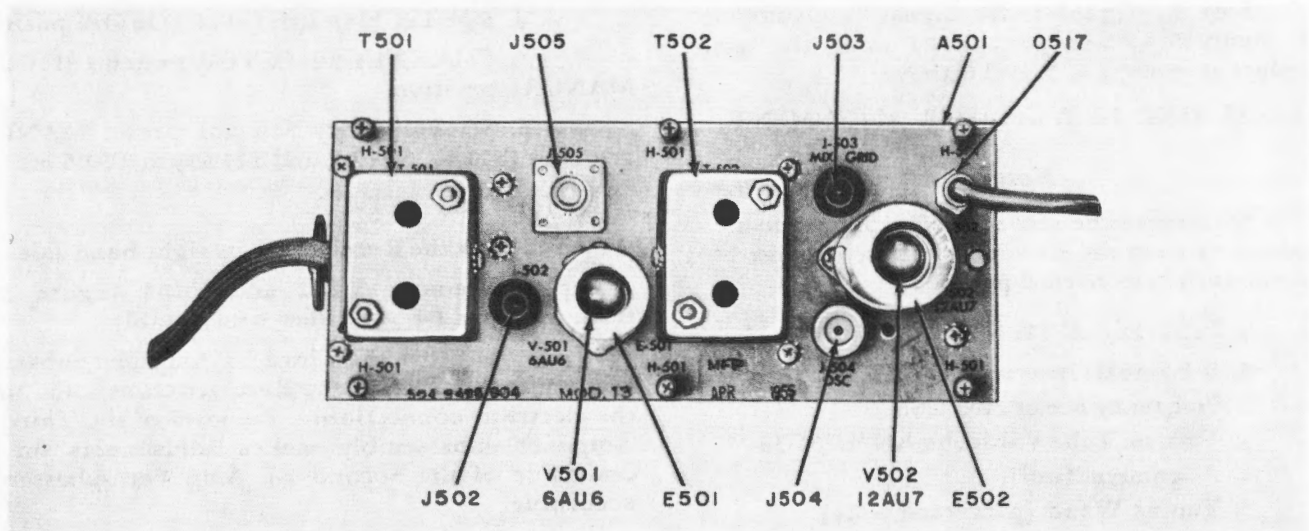

Figure 6-4. Radio Receiver R-278B/GR, Second I-F Amplifier, Top View
Step 9. Connect the Signal Generator to J503 (figure 6-4) and peak T601 using the same procedure as in steps 4, 5, and 6 above.
(3) SECOND I-F AMPLIFIER ALIGNMENT.
Step 4. Referring to figures 6-4 and 6-5, first tune the secondary and then the primary of T502 and T501 for maximum output. Adjust the Signal Generator output while tuning T502 and T501 to hold the AVC voltage of 2.5 to 3.5 VDC at J606.
Tune the Receiver in steps from 220.0 mc through 220.9 mc and the Signal Generator from 9.0 mc through 9.9 mc. Insert the tuning wand first into the secondary and then into the coils of T502 and T501 (figure 6-4) and note the VTVM reading each time. The readings should be fairly constant. If the AVC voltage increased when the iron end is in the coil, it is an indication that more iron is needed. Screw the iron core in further. Conversely, if the voltage increased when the brass end is in the coil, less iron is needed. Retract the iron core.